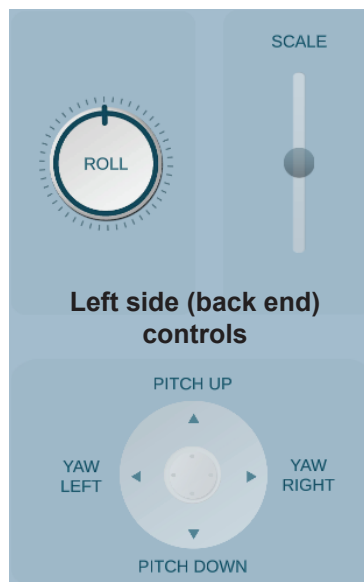
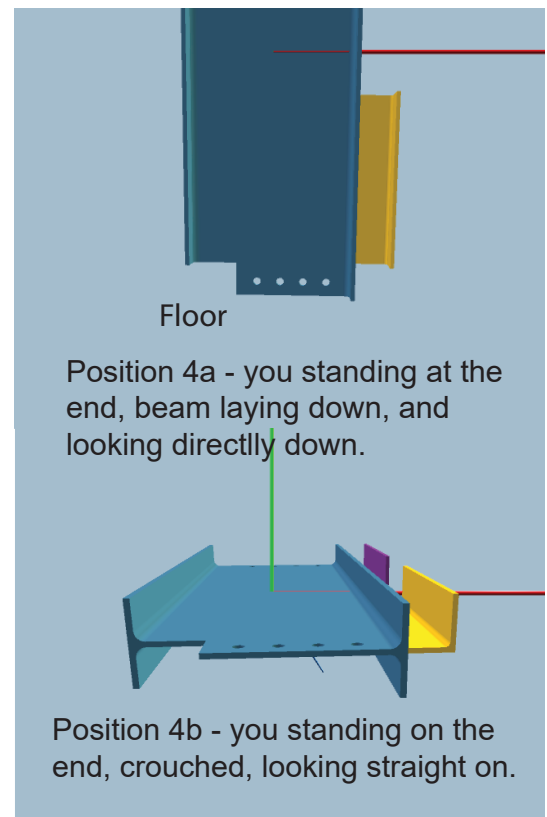

Fig. 7
Fig. 8
7. Now that you're at the back end of your beam, move to position 3a (see Fig. 6) where you will scale the beam to its proper size. To do this use the scale slider (see Fig. 7) to bring your model flush with the back edge of your beam.
8. Next you will need to move to position 3b (see Fig. 6) and crouch down. Here you will adjust the pitch until your model is flush with your beam. (see Fig. 7) Note: if you get the pitch correct it will dramatically improve the perspective.
9. Now you will want to move to position 4a so you are directly behind your beam. (see Fig. 8) Here you will adjust the yaw of your model with the joy stick control (see Fig. 7) to be flush with the centered with the beam.
10. Now move to position 4b (see Fig. 8) to check to make sure the pitch is still correct, if not adjust, and to make sure the rotation is correct (if not, adjust with roll)